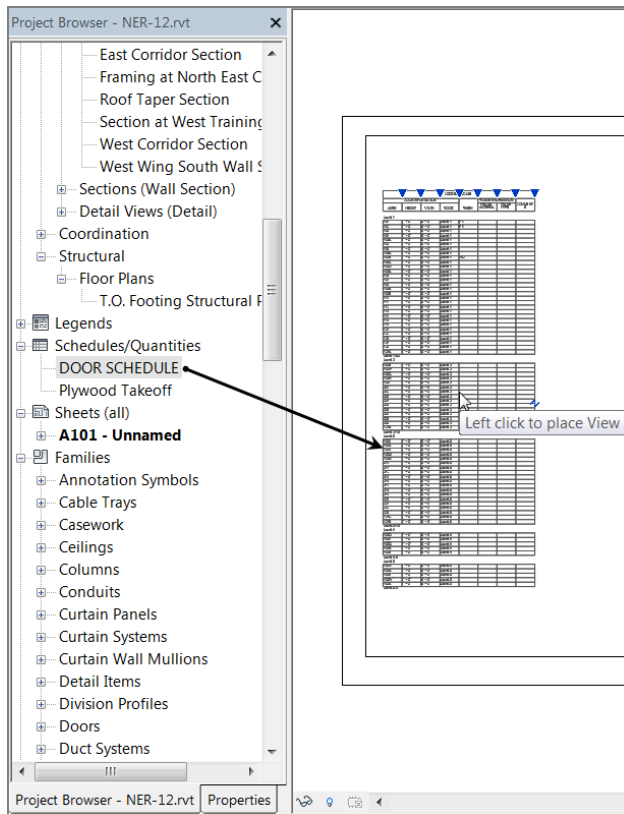

FIGURE 11.17: Clicking and dragging the schedule onto the sheet
3. With the left mouse button pressed, drag the schedule onto the sheet. You can place it anywhere you see fit (see Figure 11.17).